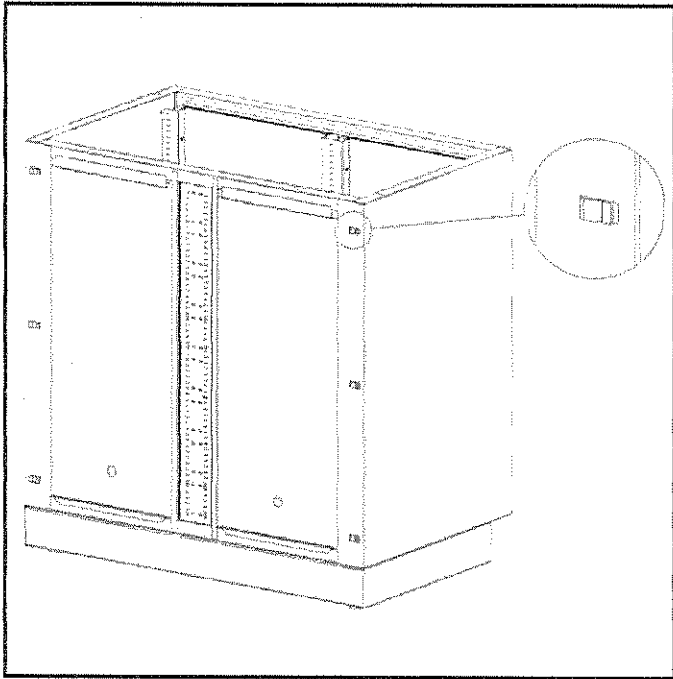

Figure 3
6. Cabinet back clearance is approximately one inch (1") from the back wall. Fillers for back and front are supplied as required. Back fillers are fixed by insertion to clips on back plate of cabinet (see Figure 3). Front fillers are fastened with double-sided tape.